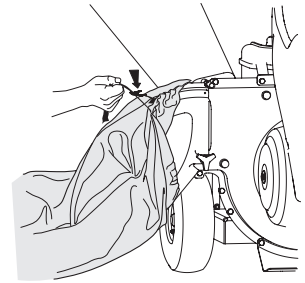

Figure 6
2. Squeeze the locking buckle to release the bag's drawstrap before loosening it from the chute deflector. See Figure 6.